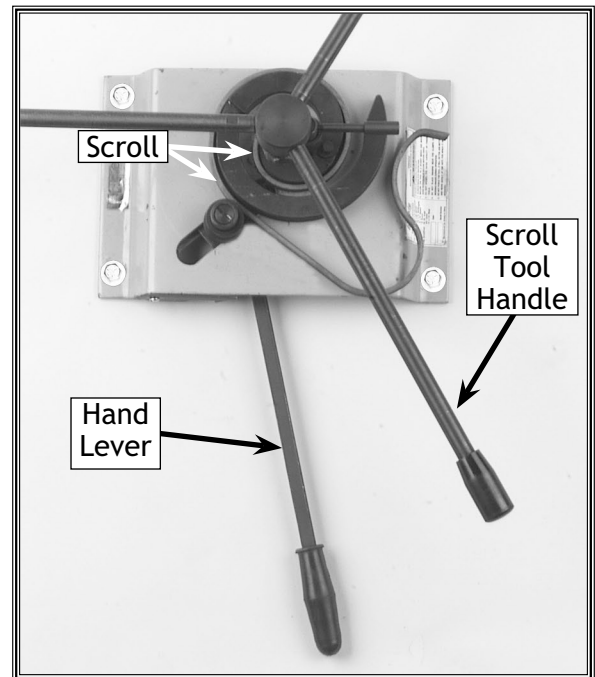

Figure 20. A finished scroll wrapped around the dies.
3. Rotate the hand lever to lock the workpiece (**Figure 20**).
4. Push the scroll tool handles clockwise to turn the hub die assembly and start the scroll (**Figure 20**).